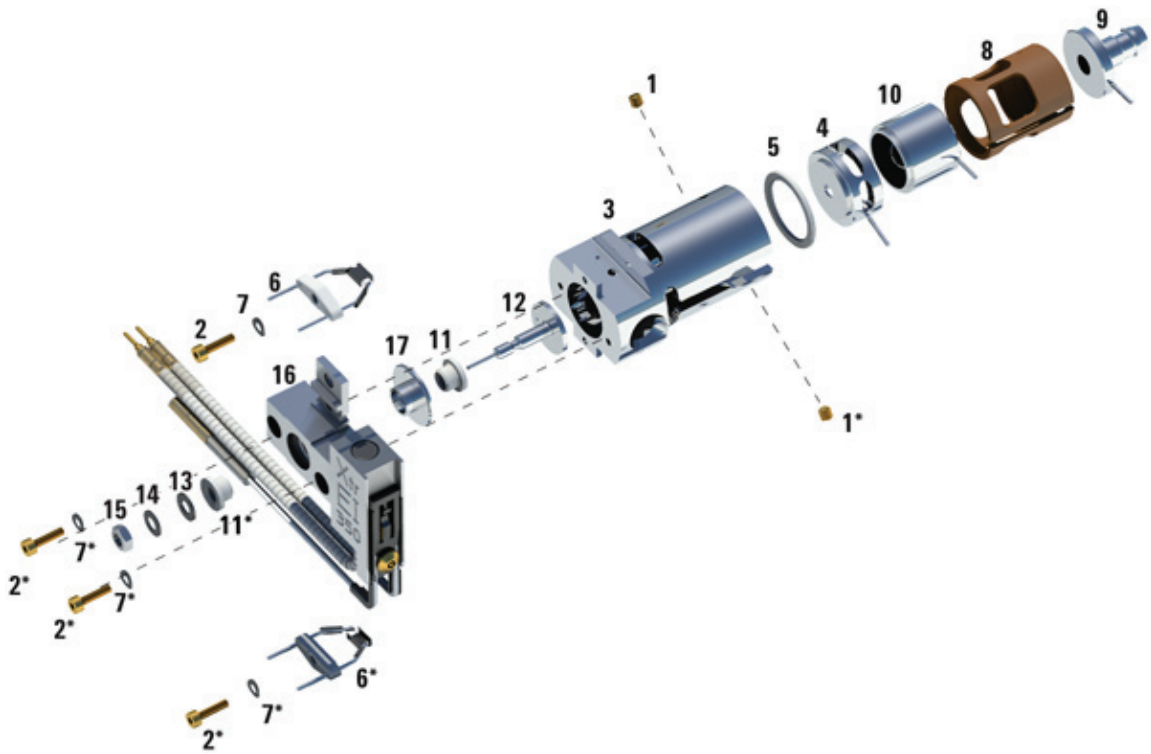

Figure 60. Assembling the EI XTR source
Refer to the exploded parts view and the EI XTR parts list while using this procedure. (See Figure 60 and Table 20 on page 190.)
- 1 Assemble the ion focus lens, extended entrance lens, and lens insulator. (See Figure 60 and Table 20 on page 190.)
- 2 Attach the extractor lens insulator to the extractor lens, and slide them into the source body. (See Figure 60 on page 190.)
Table 20 Parts list for EI XTR source (Figure 60)
Table 20 Parts list for EI XTR source (Figure 60) (continued)